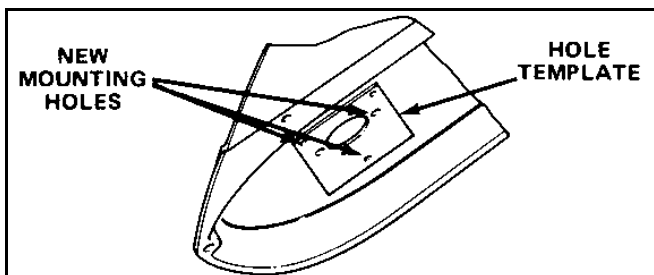

Figure 80 0217-052
- Using hole template, locate and mark new mounting holes as shown in Figure 80.